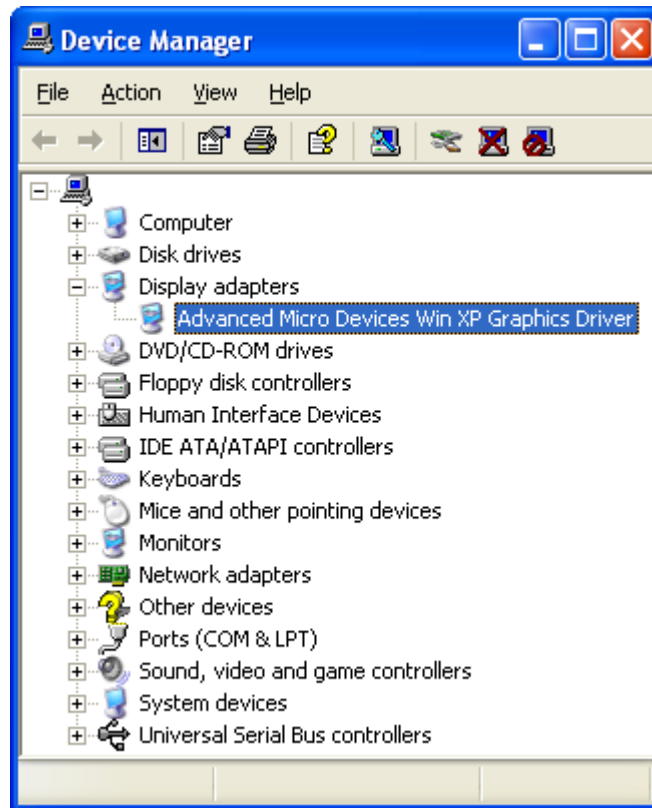

Figure 7-17: Device Manager Window
Step 24: The **Device Manager Window** now shows the installed AMD graphics driver (Figure 7-17).